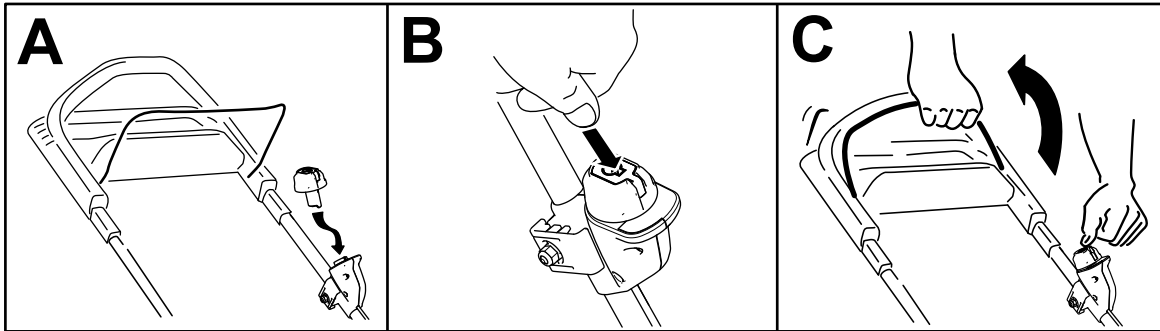

Figure 11
2. Insert the electric-start button into the electric-starter switch (A of Figure 11).
3. Press the electric-start button (B of Figure 11).
4. Squeeze the blade-control bar and hold it to the handle (C of Figure 11).